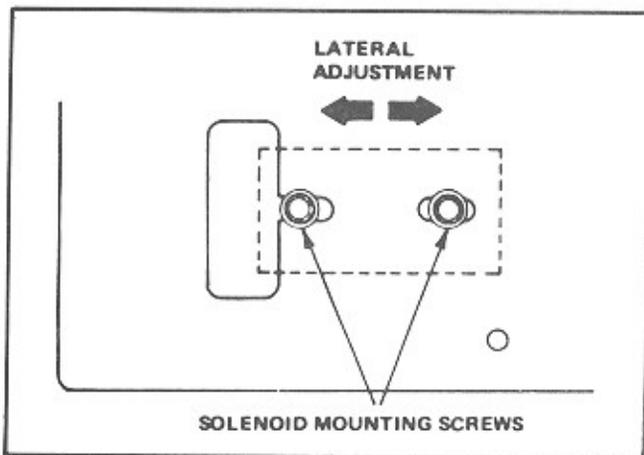

Figure 3-10. Lateral Adjustment
2. Loosen the solenoid mounting screws and with the roll pin against the plunger, position the solenoid so that there is a .015 to .025-inch gap between the sprag lever and the highest point on the sprag wheel (See Figure 3-10.).